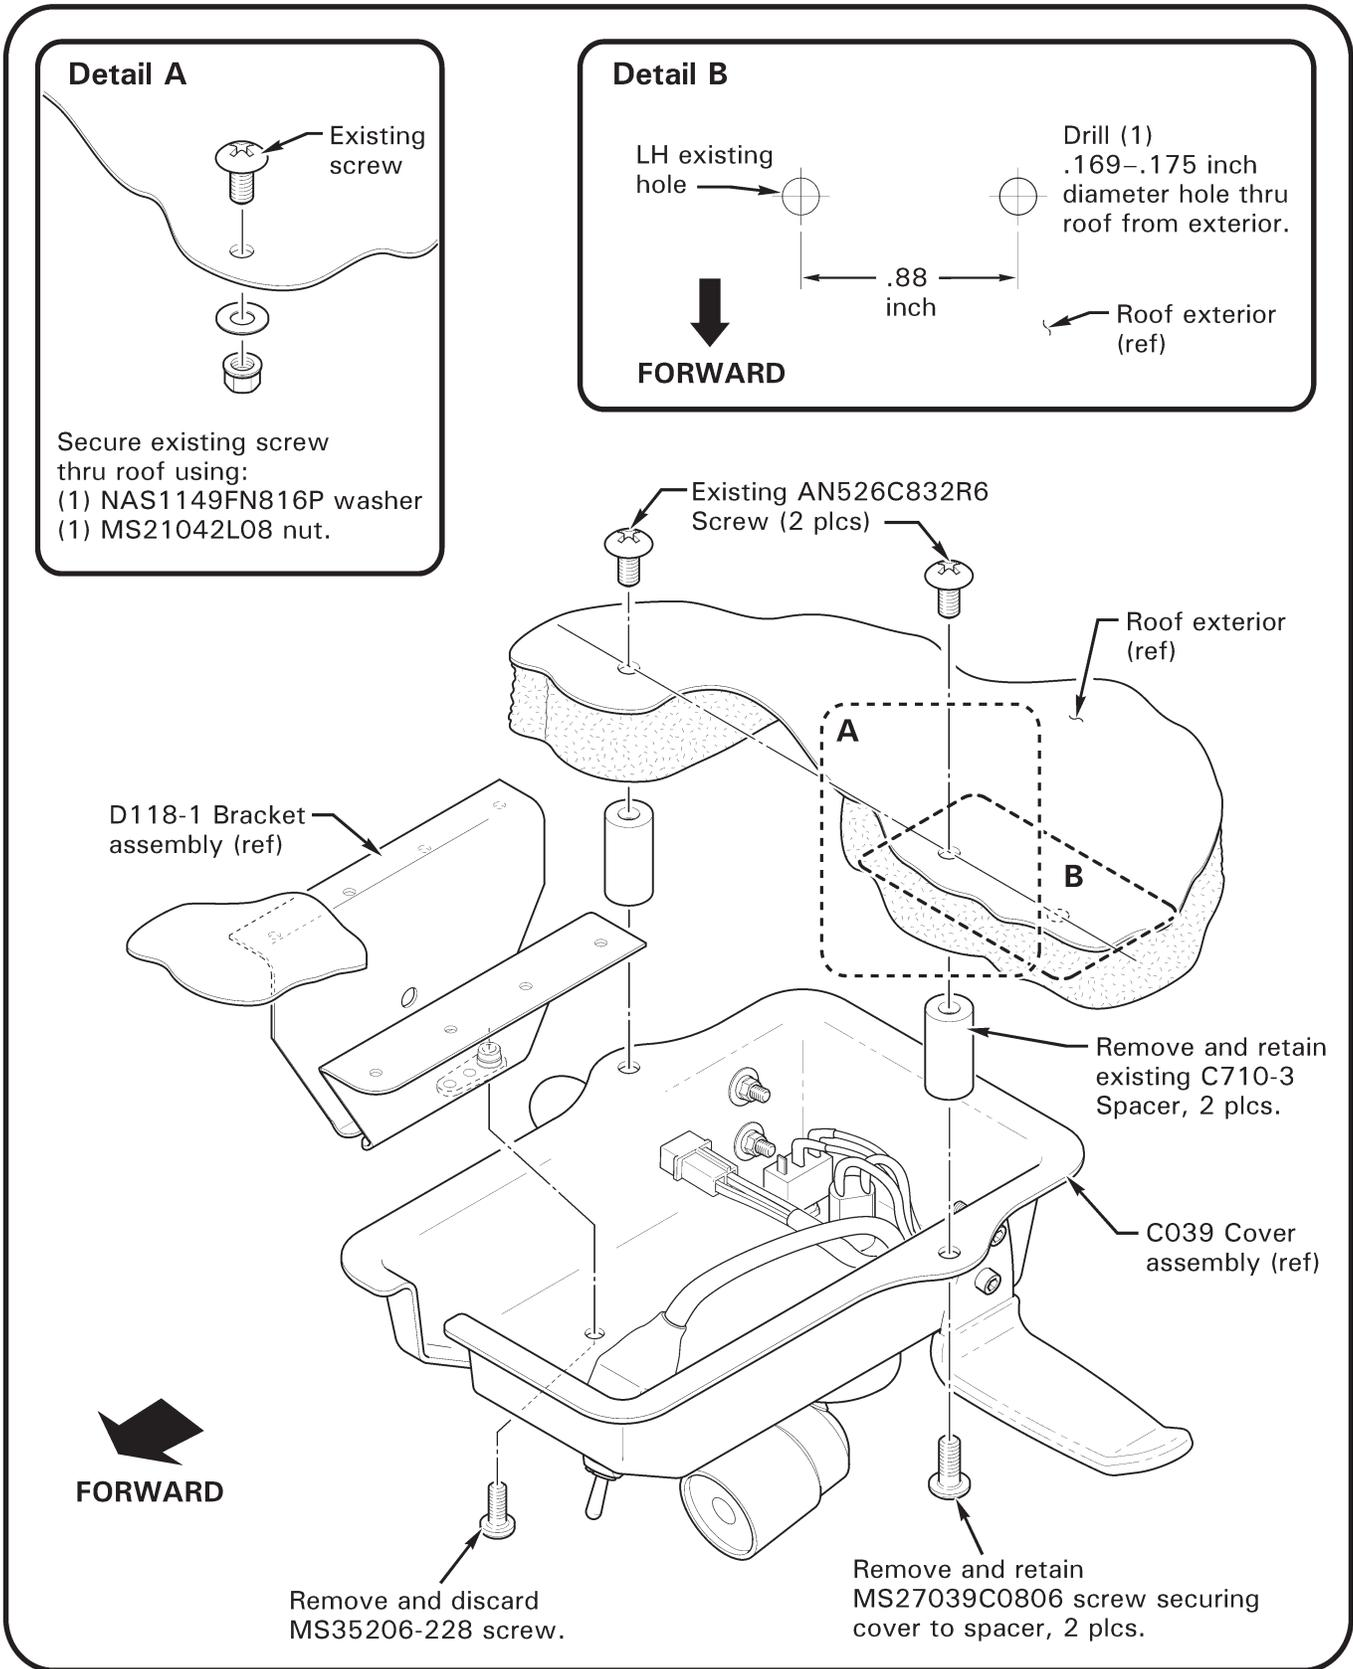

FIGURE 1 Existing C039 cover assembly installation
2. Refer to Figure 1. Remove and discard MS35206-228 screw installed at D118-1 bracket assembly. Remove and retain MS27039C0806 screws securing C039 cover to C710-3 spacers. Lower cover and disconnect spotlight switch from airframe harness. Remove cover and spacers; retain spacers.
3. Refer to Figure 1, Detail B. Layout dimension on exterior roof for drilling new hole as shown, using straight edge to maintain lateral alignment with existing holes. Using a drill stop, drill (1) .169–.175 inch diameter hole. Clean up debris. Install AN526C832R6 screw in new hole.
4. Refer to Figure 1, Detail A. Carefully remove headliner from roof to access threads of middle AN526C832R6 screw. Secure screw to roof using (1) NAS1149FN816P washer and (1) MS21042L08 nut.